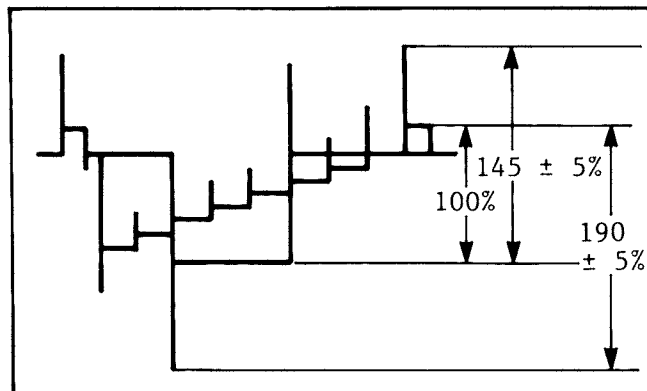

Fig. 2-5-8. Y. WHITE & DARK CLIP
3. Adjust VR4 (Y WC) so that $V1 = 190 \pm 5\%$, as shown in Fig. 2-5-8.
4. Adjust VR5 (Y DC) so that $V2 = 145 \pm 5\%$, as shown in Fig. 2-5-8.